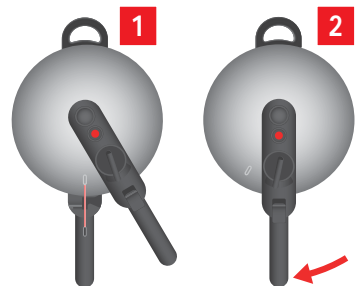

Abb. 10: Closing the lid
6. Put the lid on the pot (see fig. 10/1).
7. Turn the lid clockwise up to the limit stop (see fig. 10/2).